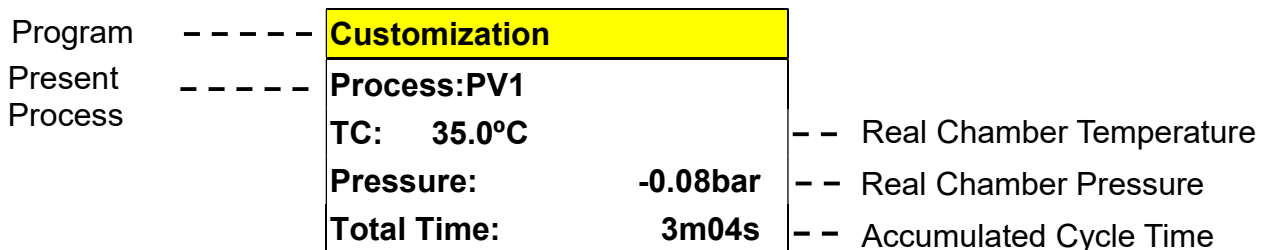

Figure 99
K. Press  button again to star the selected program. The relative information such as program cycle, present process, temperature, pressure and time as shown in Figure 99 will be displayed on the panel.